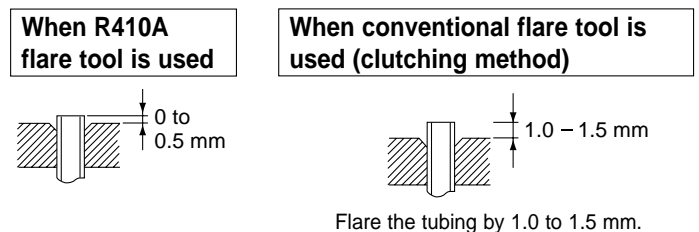

Fig. 38c
- (5) Use the special flare tool for R410A for making a flare. If the conventional flare tool (for R22) is used, the flared portion of the tubing should protrude 1.0 to 1.5 mm. (Fig. 38c)